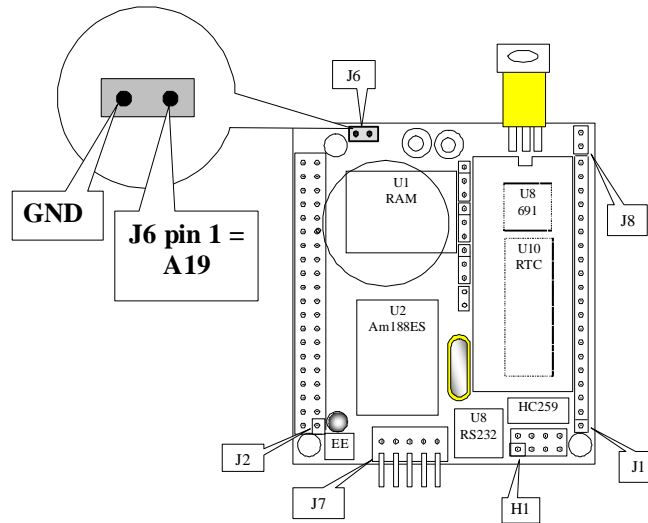

Figure 1.3 Location of Step 2 jumper on the A-Core (J6)
- Set the jumper on J6 pins 1-2 on the A-Core (Figure 1.3).